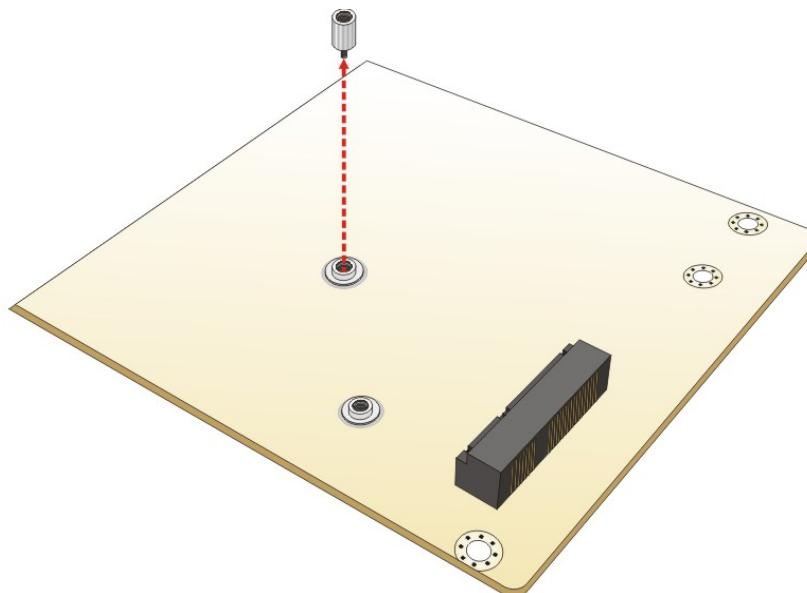

Figure 3-10: Removing the Standoff
Step 2: Unscrew and remove the standoff secured on the motherboard as shown in **Figure 3-10**.